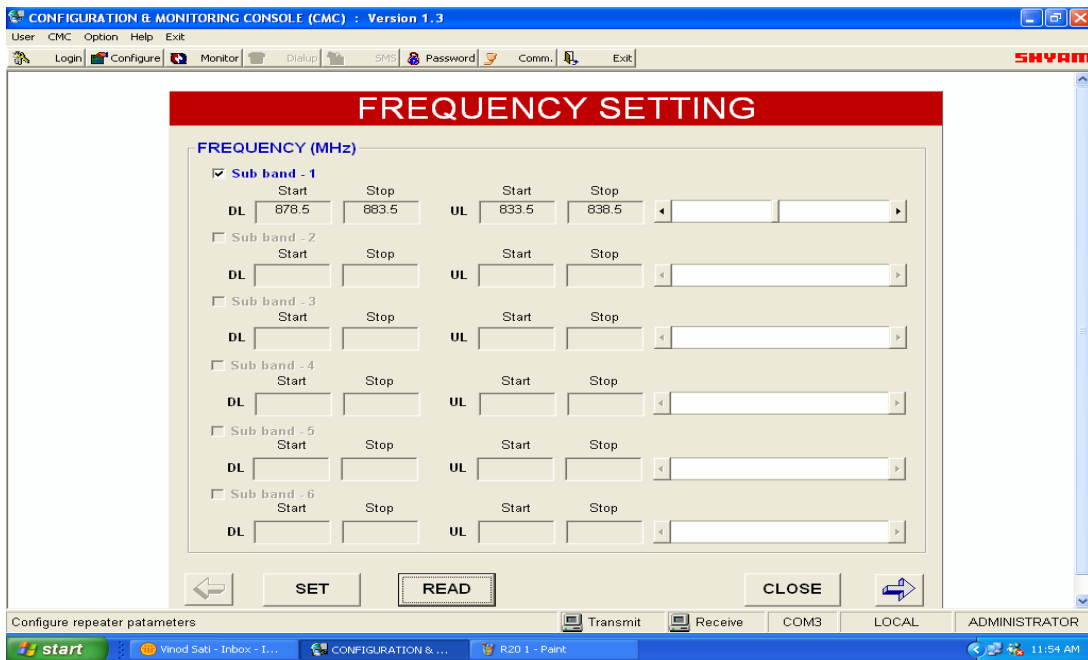

Figure 7: Frequency Settings
d) Frequency Settings (Figure 7)